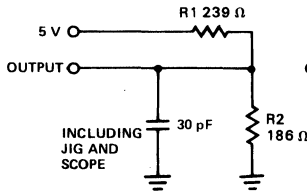

Figure 1a
5. Test conditions assume signal transition times of 5 ns or less, timing reference levels of 1.5V, output loading of the specified I_{OL}/I_{OH} and loads shown in Figure 1a, 1b.